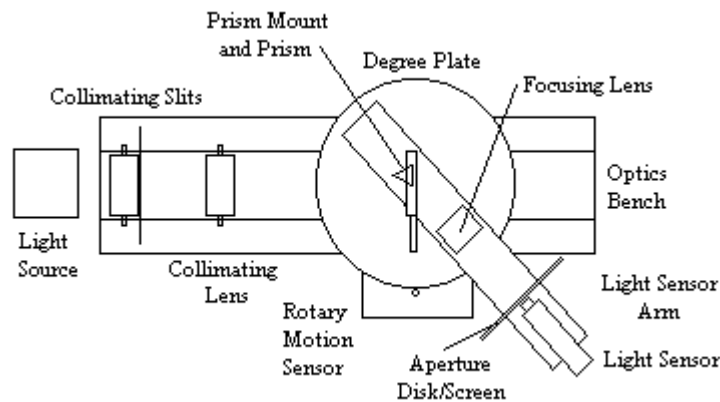

Figure 1: Set up of spectrophotometer.
For this lab, parallel light rays travel through the collimating lens, which allows the light rays to remain parallel. Passing through the prism, the light rays refract and project in front of the aperture slit over the light sensor. The light sensor detects and records the light intensity as voltage. (See Figure 1 below.)
Please refer to the Figure 1 above as needed when setting up this experiment:
- Using the black cloth and binder clips provided, mask off the spectrophotometer so that the only light that reaches it from the light source comes through the collimating slit. (The light source you will be using is a 300 W light bulb with a tungsten filament.) The black cloth should be clipped to the collimating slits (see Figure 1).